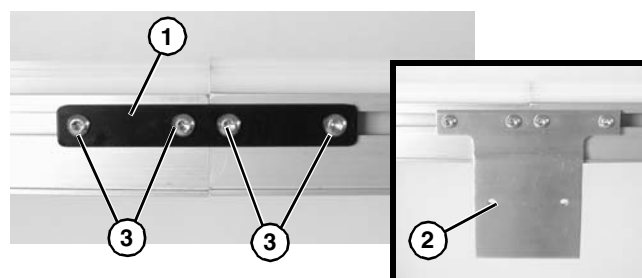

Figure 6
2. Join conveyor sections and install connector brackets (**Figure 6, item 1**) or connector/mount brackets (**Figure 6, item 2**) and screws (**Figure 6, item 3**) on both sides as indicated.
3. Tighten screw (**Figure 6, item 3**) to 60 in-lb (7 Nm) on both sides of conveyor.